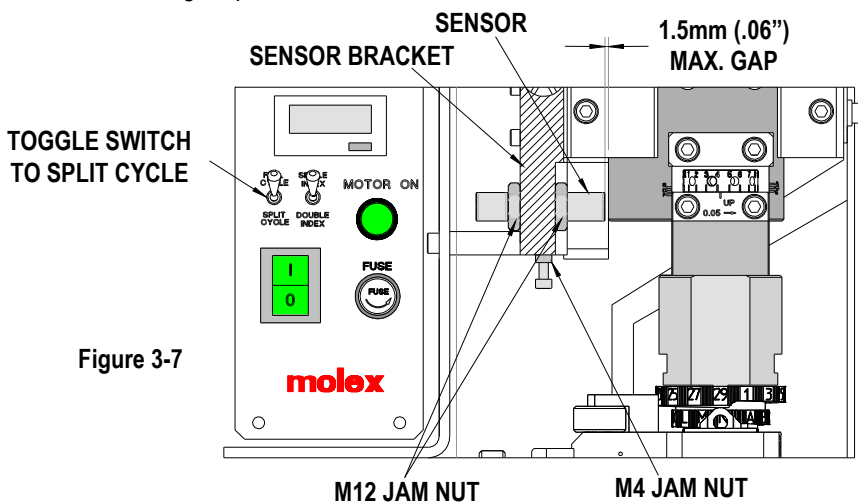

Figure 3-7
4. Loosen the two M12 jam nuts on the split cycle sensor, located on both sides of the sensor bracket. Then loosen the M4 jam nut holding the M4 X 25 socket head screw. Turn the M4 screw clockwise to raise or counter-clockwise to lower. See Figure 3-7. Raise the sensor if the punch is partially crimping the terminal; or lower the sensor if the ram is not closing far enough and not centering the terminal.
5. Tighten the M4 socket head screw and the (2)M12 jam nuts positioning the sensor for the split cycle position. See Figure 3-7.
! **Note:** The gap between the sensor and the ram should be 1.5mm (.06") Max. See Figure 3-7.